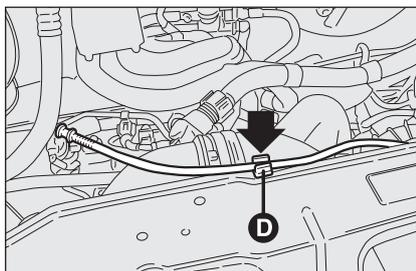
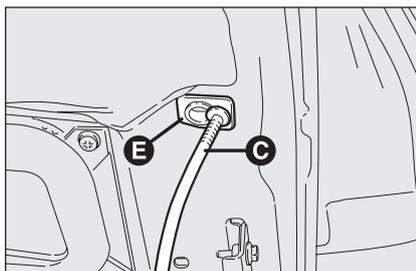

fig. 122
fig. 123
- lift the bonnet and at the same time release the rod **fig. 122** from the catch **D**, then fit the rod end **C-fig. 123** into the bonnet recess **E**.
- hold the bonnet up with one hand and with the other remove rod **C**-fig. 123 from recess **E** and fit it back into its catch **D**-fig. 122;